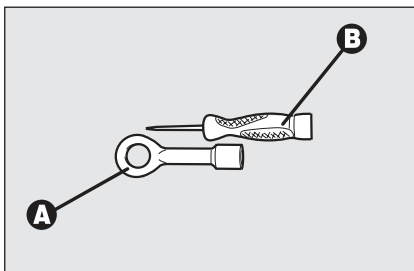
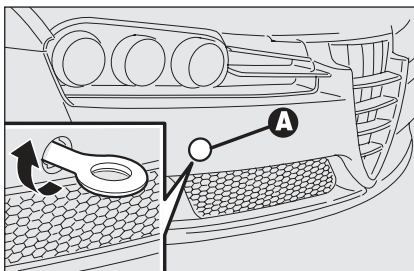

fig. 64
fig. 65
- ☐ take the tow hook **A-fig. 64** from the Fix&Go automatic container.
- ☐ remove the snap-fitted plug **A-fig. 65** from the front bumper. If using the flat blade screwdriver **B-fig. 64** provided as standard, protect its tip with a soft cloth to prevent damaging the car.